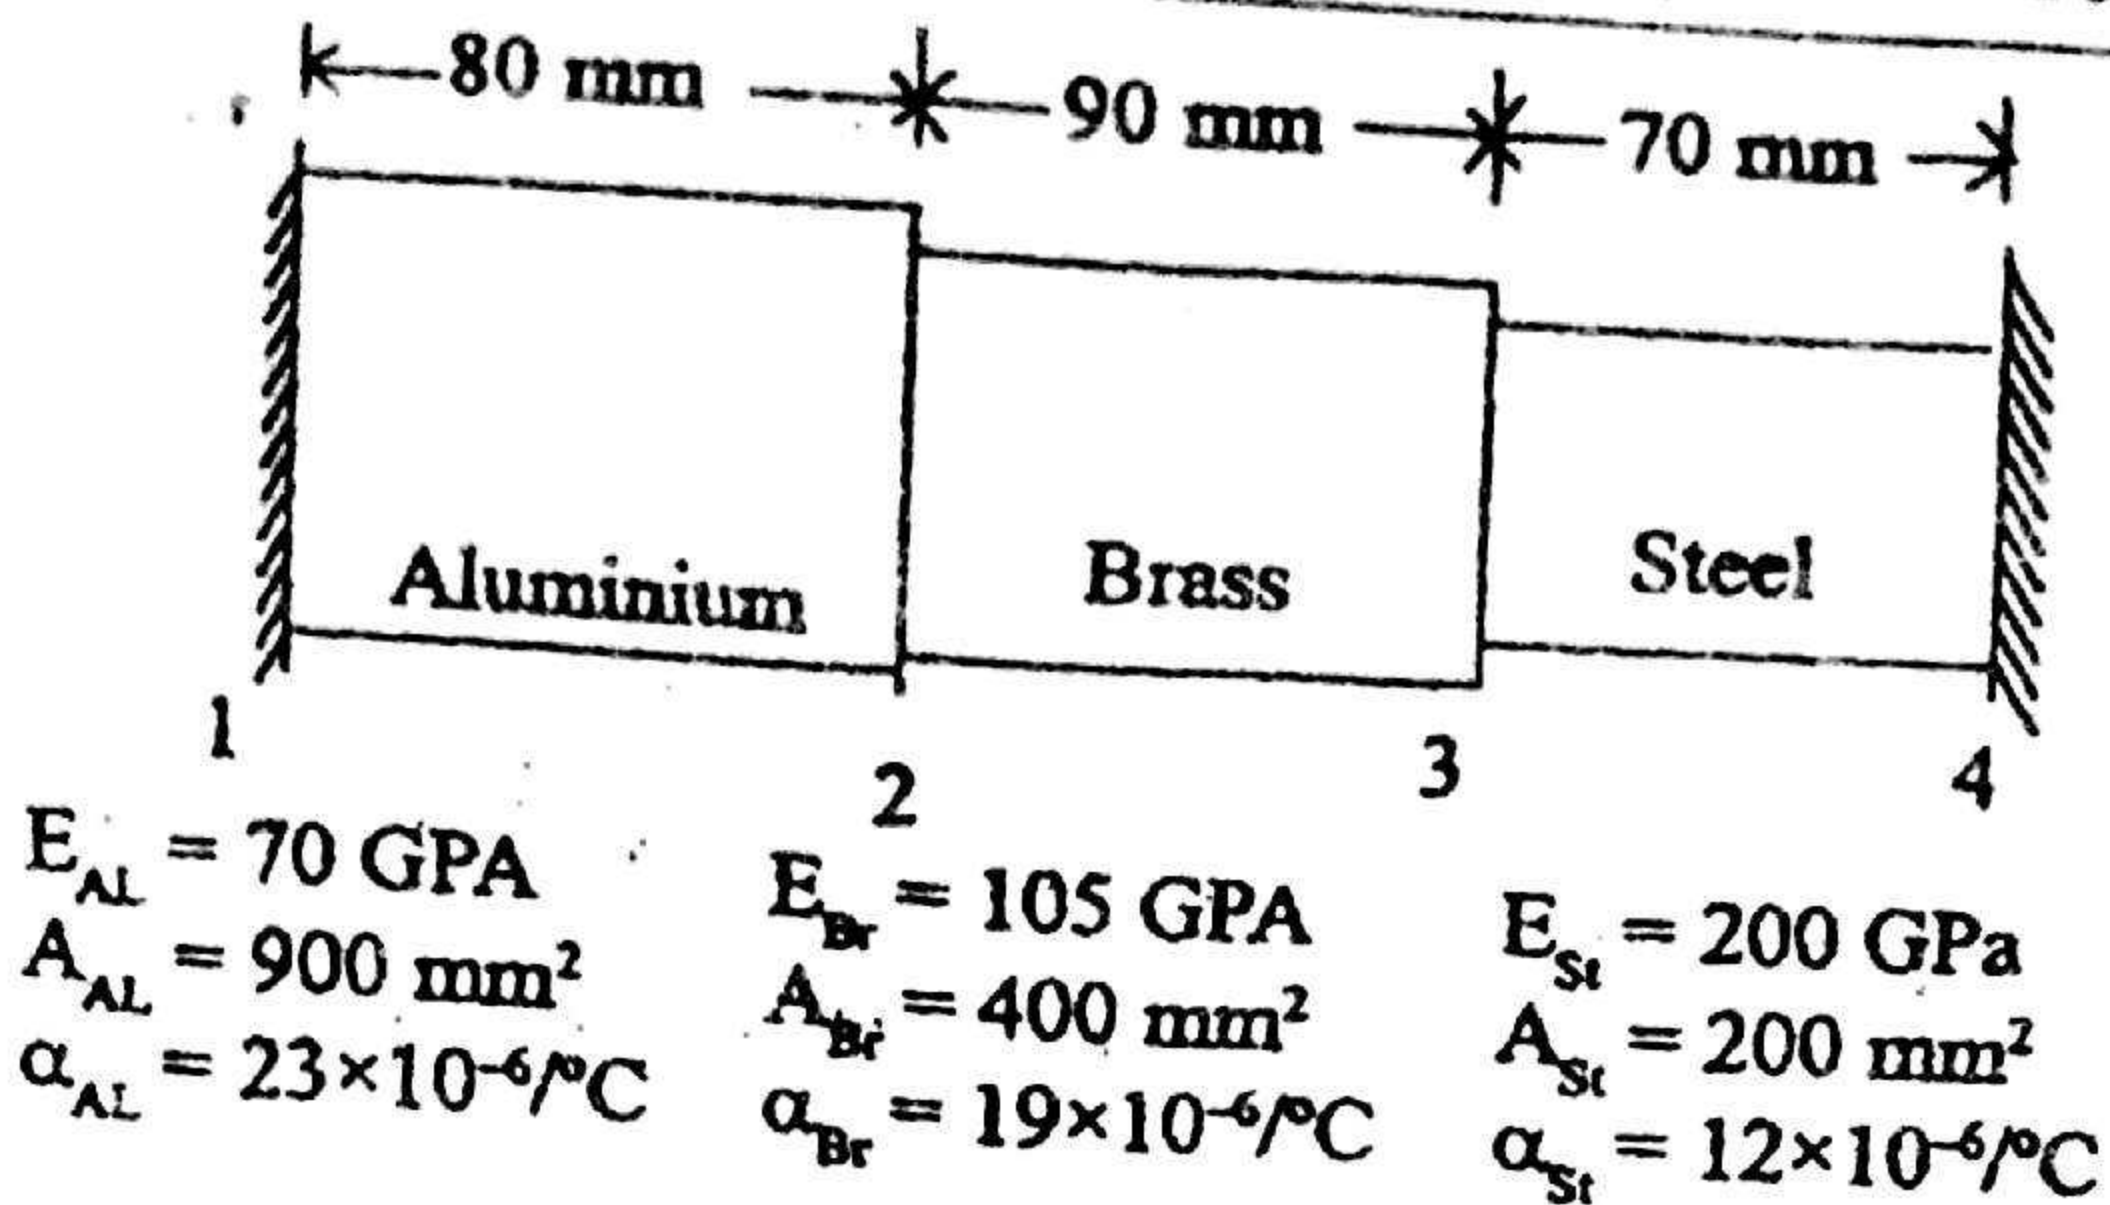

Fig. 8
8. (a) For the three stepped bar shown in Fig. 8, the bars fit snugly between the rigid walls at room temperature. The temperature is then raised by 40°C . Determine the displacements at 2 and 3 and the stresses in the three sections. (10)